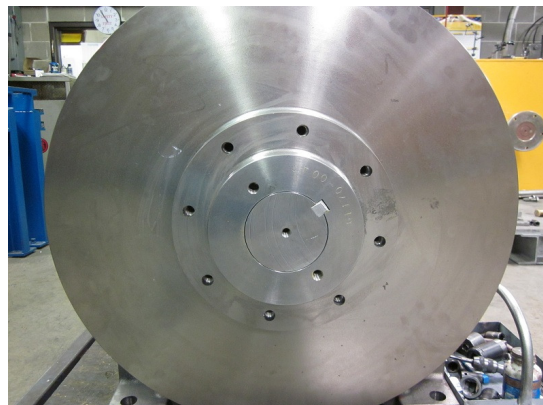

Figure 3
- With the old sheave supported by the hoist system, and free of the machine rotor, remove the old sheave from the area. Refer to Figure 3.